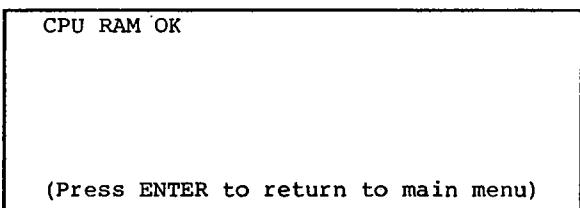

Fig. 5-9
3. If the CPU RAM function is normal, the LC-display will show the message as in fig. 5-9. If "ERROR" is displayed, the function is abnormal. Check its circuit and the LSI.